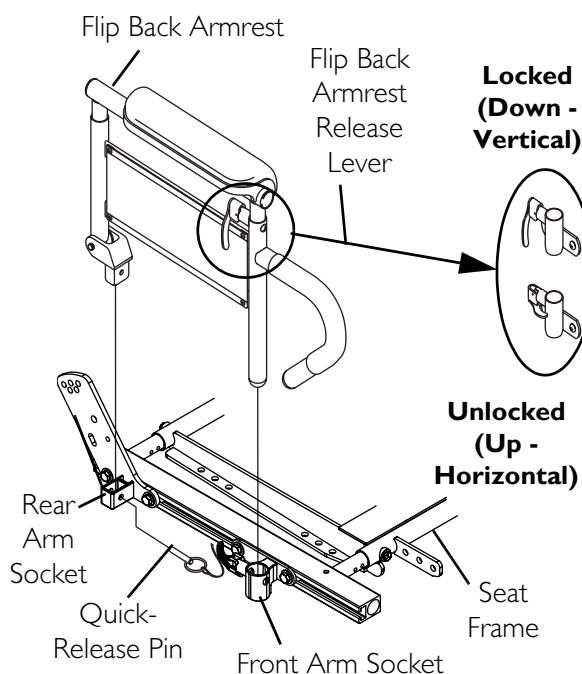

FIGURE 7.1 Installing/Removing Flip Back Armrests
NOTE: For this procedure, refer to FIGURE 7.1.
1. Visually inspect to ensure flip back armrest release lever is in the unlocked (up-horizontal) position (FIGURE 7.1).
1. Unlock the flip back armrest by positioning the flip back armrest release lever into the up (horizontal) position (FIGURE 7.1).